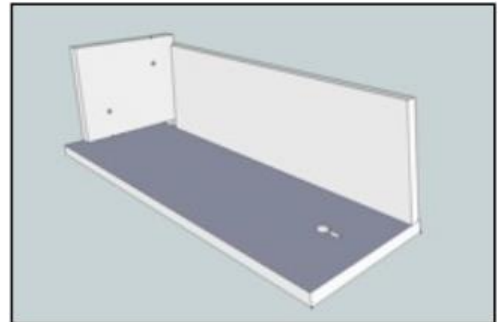

Figure 4: Slide the Base Panel into the rebate in the Fixed Side Panel, flush with the rear Panel.
- Push the BA up to the BP, approximately parallel to the bottom edge. (Fig 4)